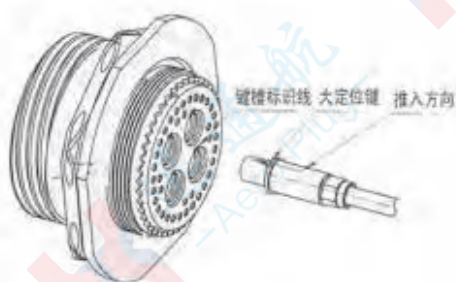

图3.3 定位键对准白色标识线
- 1) With the assembled high-speed differential contact, align the direction of the outer contact's locating key with the white key mark line on the connector's cable gland, as shown in Figure 3.3;